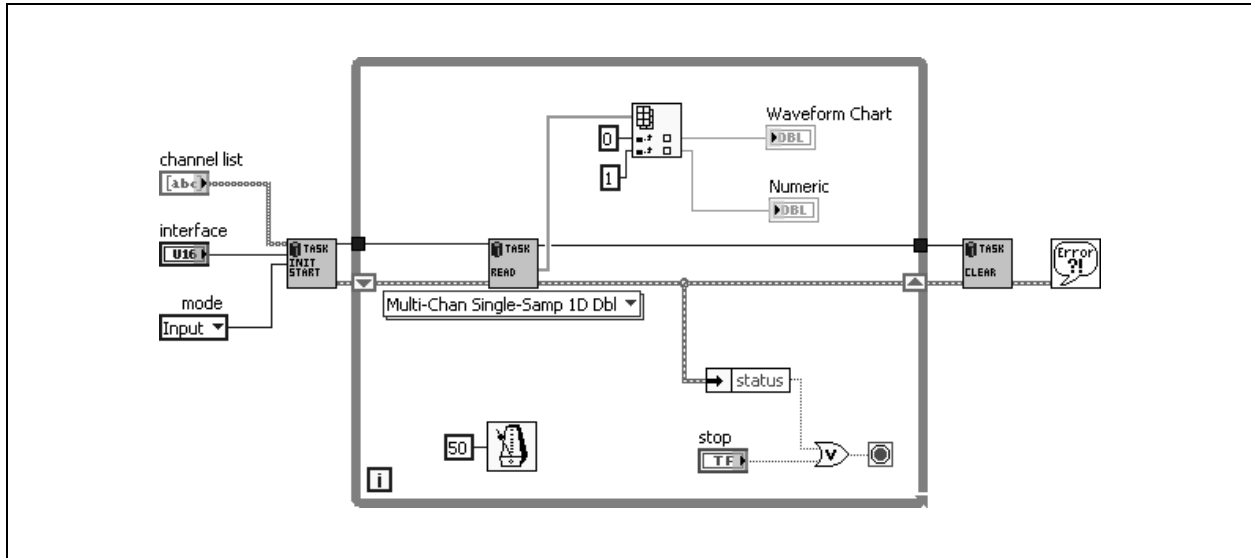

Figure C-20. Read CAN Channels (Multiple) VI Block Diagram
- Modify the block diagram as shown in Figure C-20 to display the second channel.